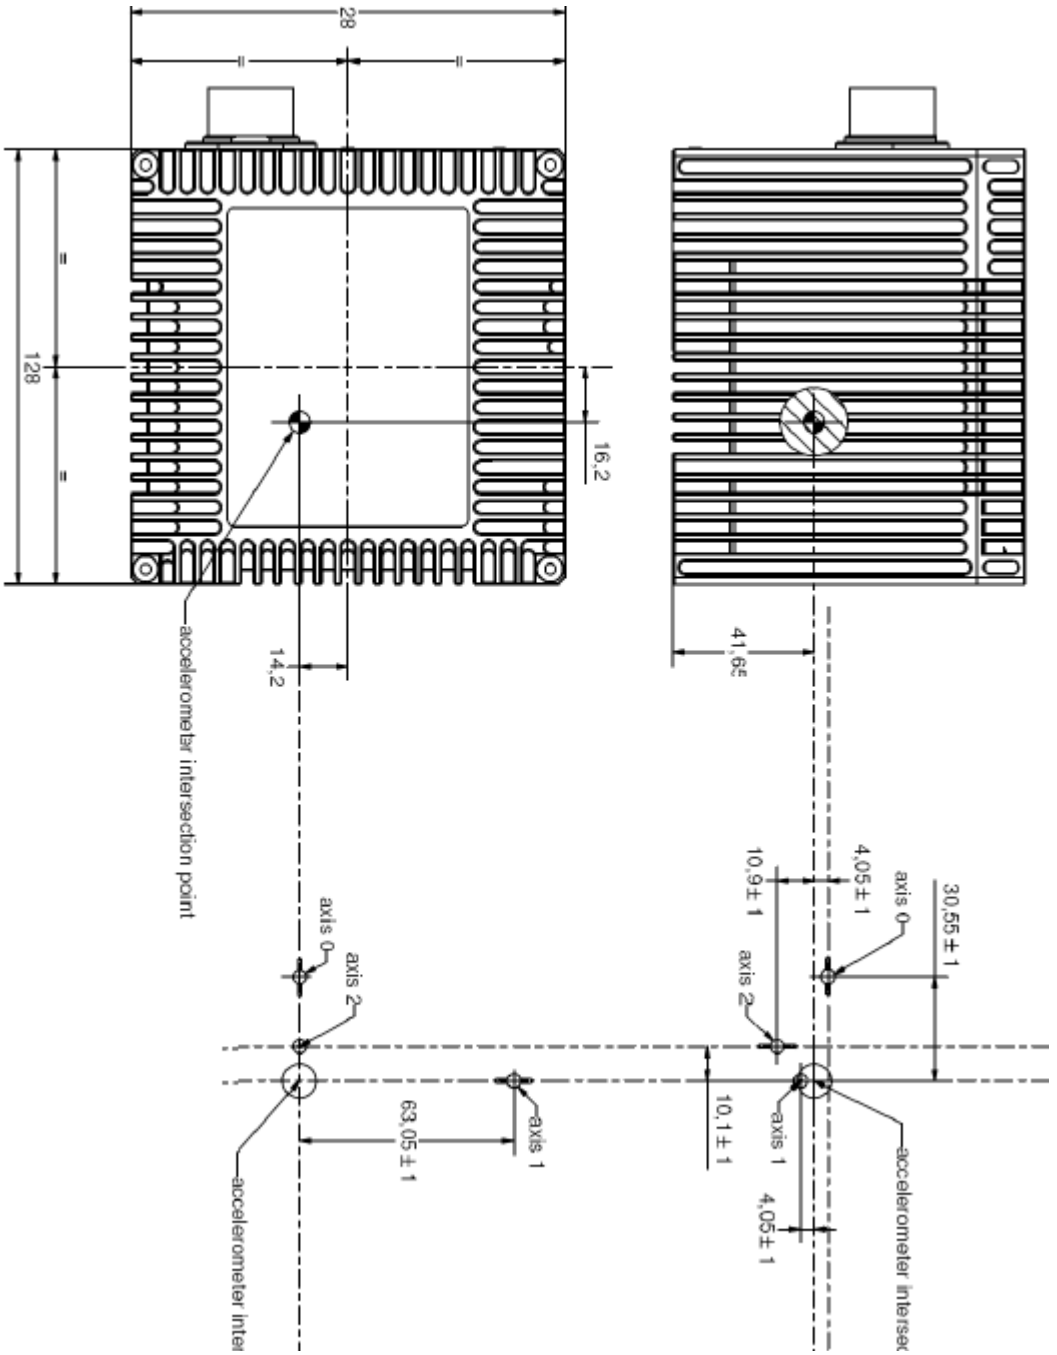

Figure 16: iIMU-FSAS Centre of Navigation
- a. See *Figure 16* on *page 54* for the centre of navigation dimensions